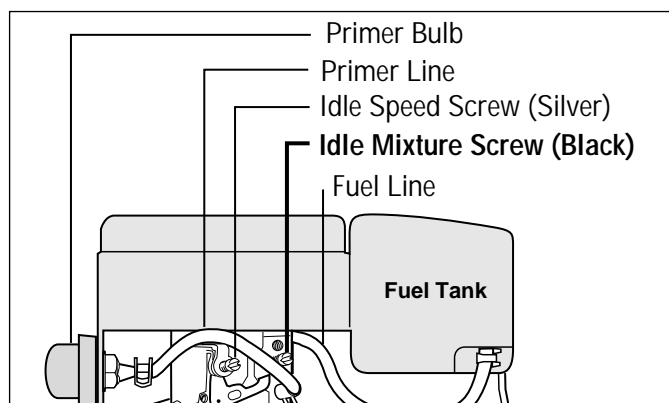

Figure 15: Idle Mixture Screw can be adjusted.
1. Locate the carburetor idle mixture screw (Figure 15). It is directly under the air filter and is black.